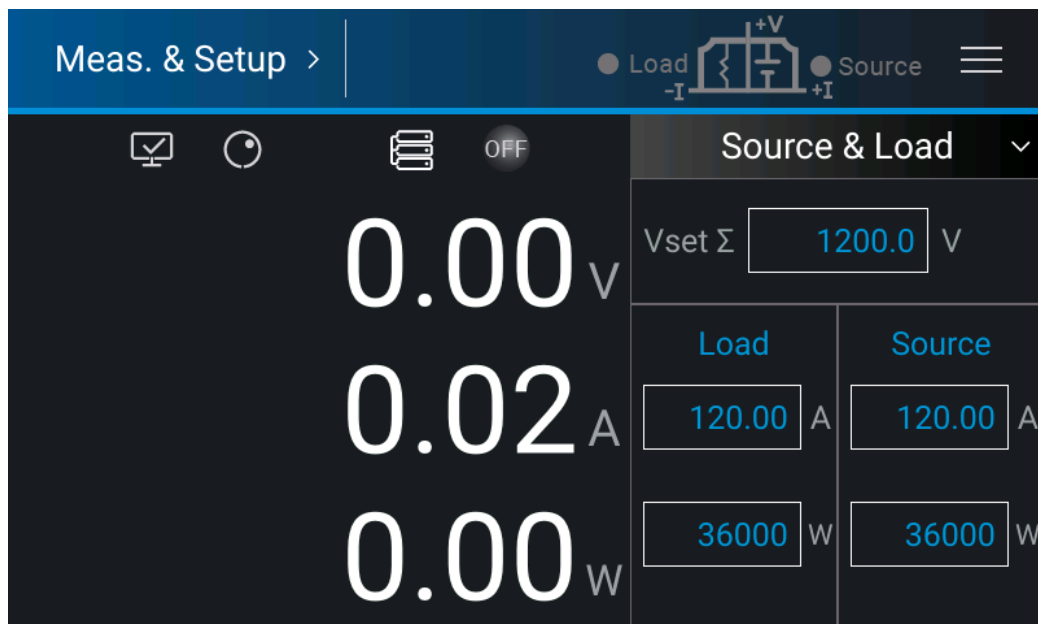

Figure 3-59
3. Enable the M/S Control to perform series connection control. When the connection is successful, the Master device displays as Figure 3-59 (ex.62180D-600) shows while the Slave device displays as Figure 3-57 shows.